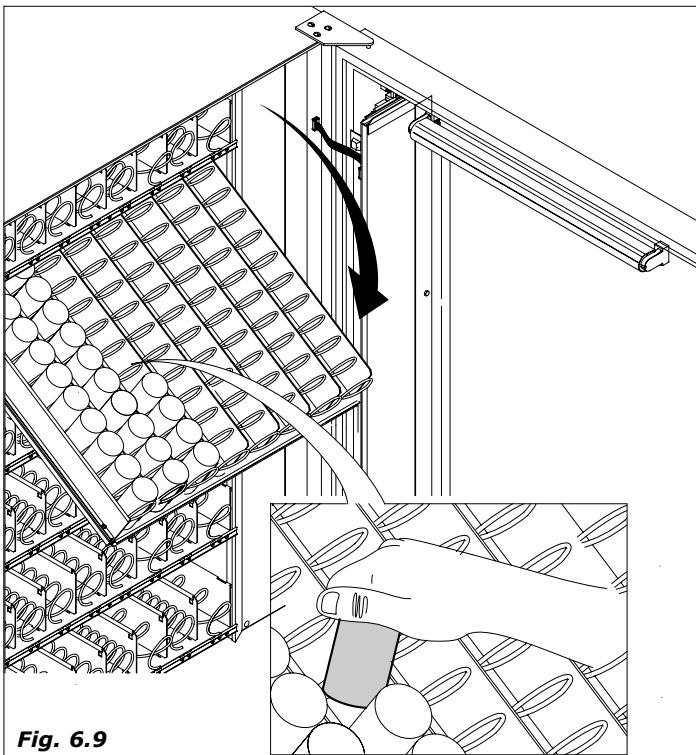

Fig. 6.9
- to carry out product loading it is necessary to remove each drawer by pulling it towards the outside until the locking point is found. The first three drawers from the top will tilt downwards to make loading easier.(Fig.6.9).